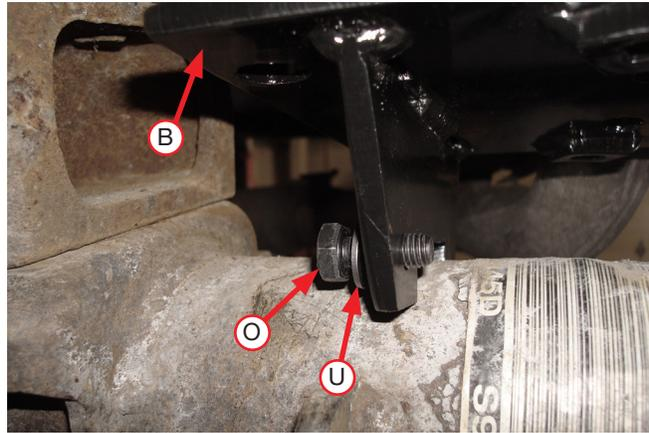

Fig. 10
10. Set a lower bracket (B) onto the passenger's (right) side axle (Fig. 10) and insert the 5/16" hex cap screw (O) through a 5/16" flat washer (U) through the lower bracket, from the leaf spring side of the bracket, to the inside (toward the center of the vehicle). Push the bolt up against the bracket.